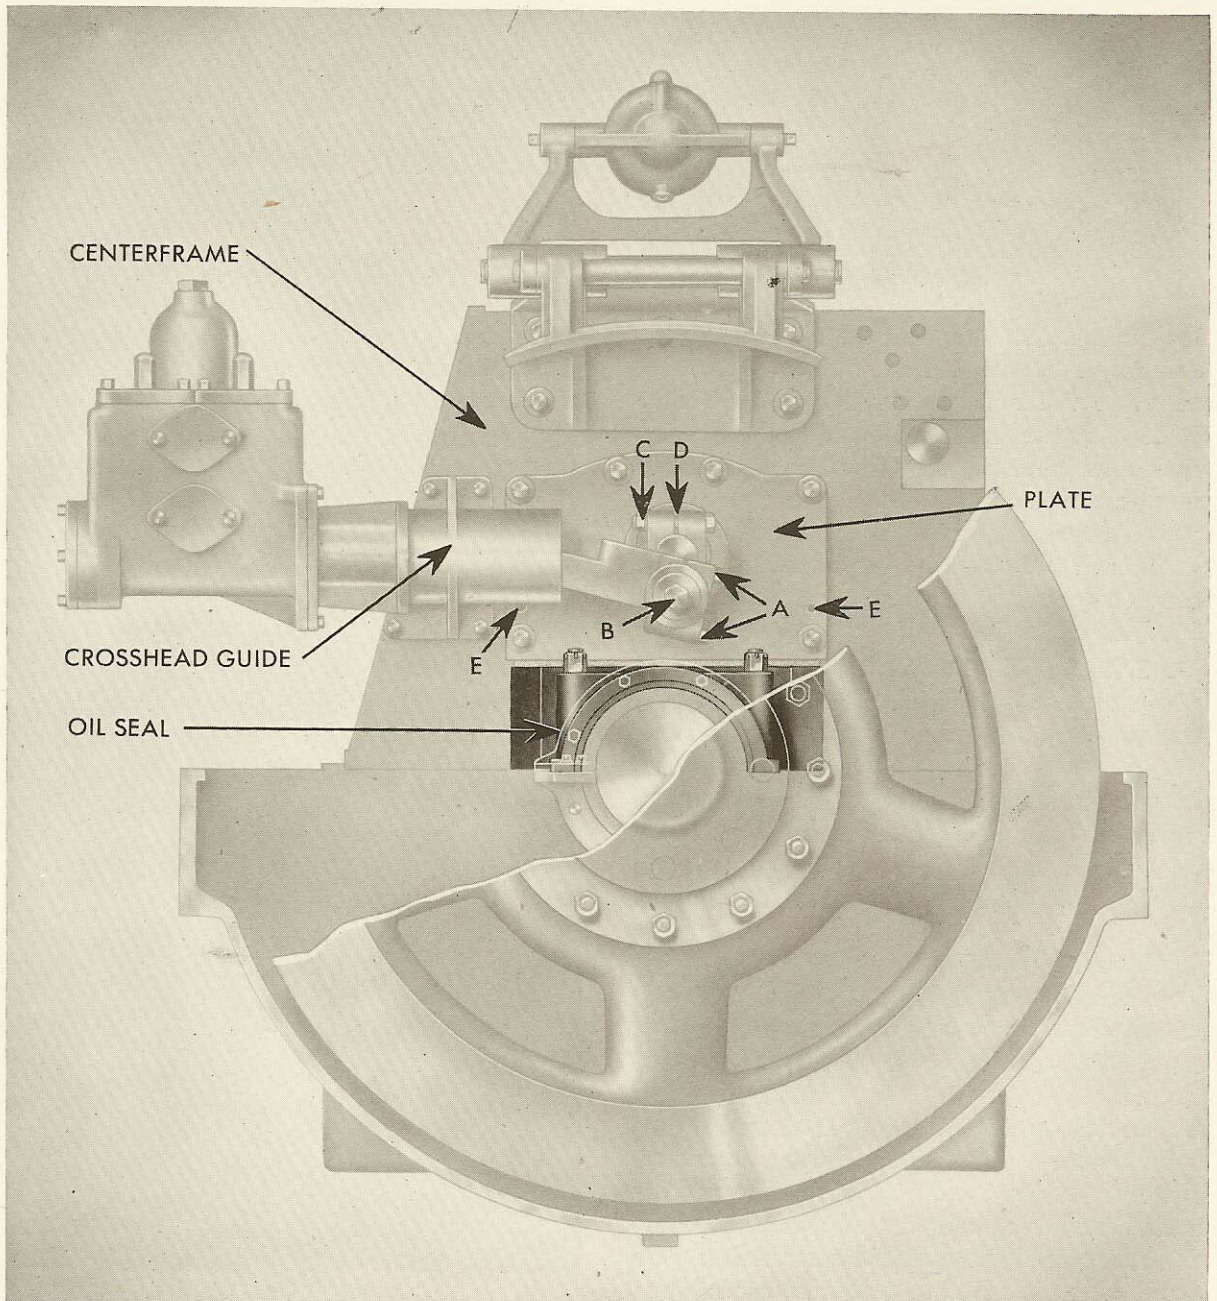

FIGURE 14-3
The circulating pump is driven from a crankpin which extends through the centerframe at the after end of the engine. This crankpin is on one end of a short shaft that is supported by the plate shown in Figure 14-3. The other end of this shaft carries a large gear which engages a smaller gear on the crankshaft. Many of these parts have to be removed before the after main bearing cap can be taken off.
Disconnect all pipe lines to the pump. Sling the pump from a block and tackle or chain block so that the weight is just taken. Remove the two cap screws (A) and the cap screw and washer (B) Figure 14-3 from the pump connecting rod. Care should be taken not to lose the shims which adjust this bearing. Remove the four cap screws which attach the crosshead guide to the centerframe. The entire pump unit can now be set aside. Remove the bolt (C) from the crankpin. Carefully drive a wedge in the gap (D) Figure 14-3 and the crank can be pulled off.
the crankpin. This bearing should be shimmed so that it will have about 0.002 inch clearance. This can be checked with a feeler gauge. After the washer and cap screw (B) Figure 14-3 have been installed there should be a slight fore and aft movement to the connecting rod. This will indicate that nothing has been sprung or is under tension.